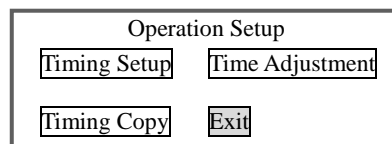

Fig. 2: Operation Setup Interface
Press the "OK" key to enter the interface of "Operation Setup", as shown in figure 2:
2. Timing points, system time, timing point copy can be set in the interface of "Operation Setup" as shown in figure 2.